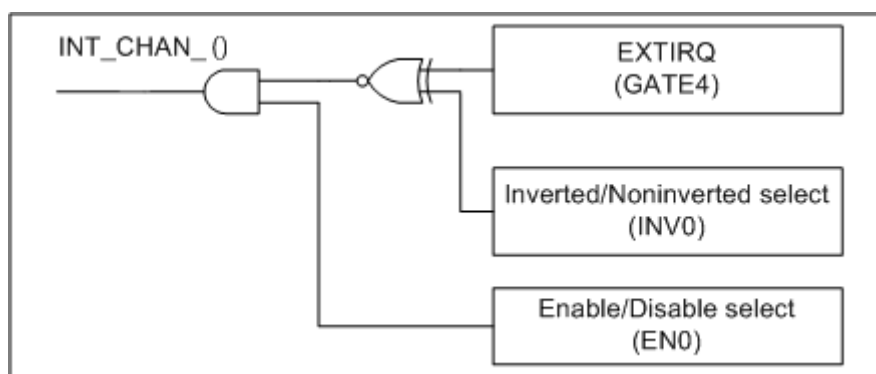

Figure 2.7
Figure 2.7 illustrates the control method of external interrupt. Note that the signal source comes from GATE4. The INV0 is used to invert/non-invert the trigger signal source and EN0 is used to disable/enable the timer interrupt (Pin13 of CN5) (Refer to Sec. 2.5 for the source of interrupt signal). **The INT_CHAN_0 must be fixed in low level state normally and generated a high_pulse to interrupt the PC.**
1. The EN0 can be used to enable/disable the INT_CHAN_0 as follows: (refer to Figure 2.7 and Sec. 3.1.4)
2. The INV0 can be used to invert/non-invert the EXTIRQ as follows: (Refer to Figure 2.7 and Sec. 3.1.6)